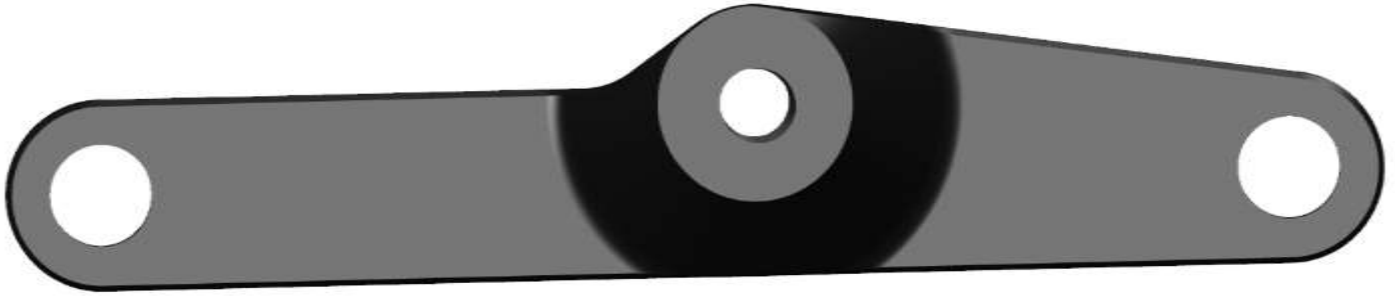

Figure 42
7. Locate the Single Idler Bracket (#60) and the (2) two remaining bolts removed in *Step 6*. Secure the Bracket to the engine with the (2) two bolts as shown below. The left side of the bracket will be **BEHIND** the other bracket, sandwiched between the bracket and the engine. Torque the left bolt to **42-48 ft-lbs**, and the right bolt to **51-58 ft-lbs**. *Figure 42*.